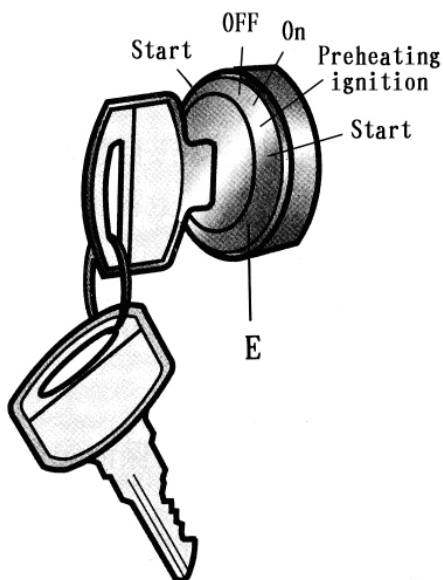

Fig.4-4 Ignition start switch
- (1) Choke wire “A” : Pull out the choke wire and the engine will be shut off.
- (2) Ignition switch “C” : It is used to control instrument circuit and starting circuit. Refer to Fig. 4-4 for its operation.